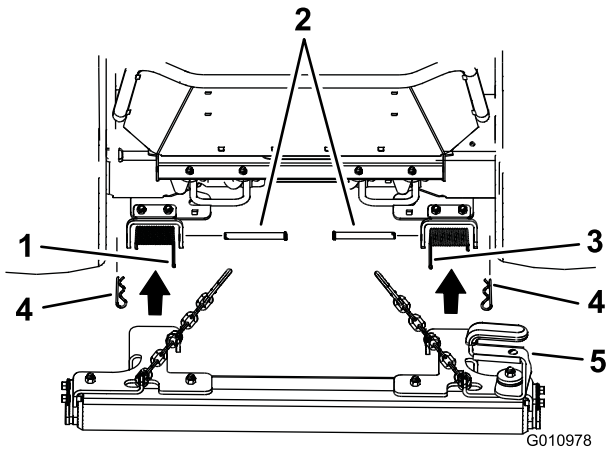
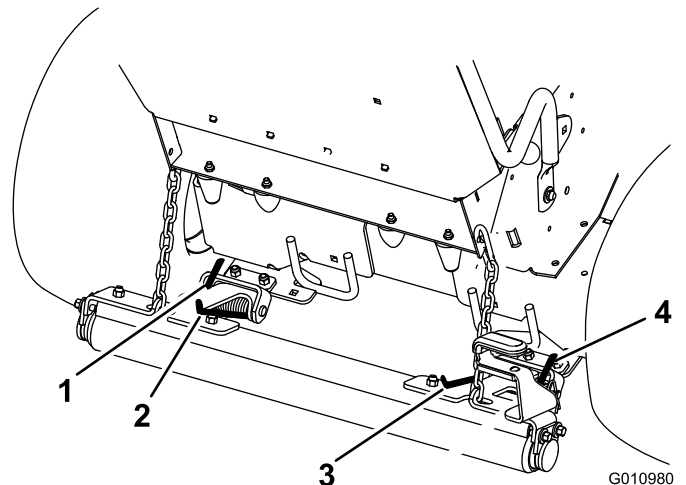

Figure 4
Figure 6
1. Position the springs into the stripper mounting brackets (Figure 4). Ensure the short outside finger on the spring is in the slot in the roller mount (Figure 6).
4. Pull the inside spring finger up over the roller mount (Figure 6).